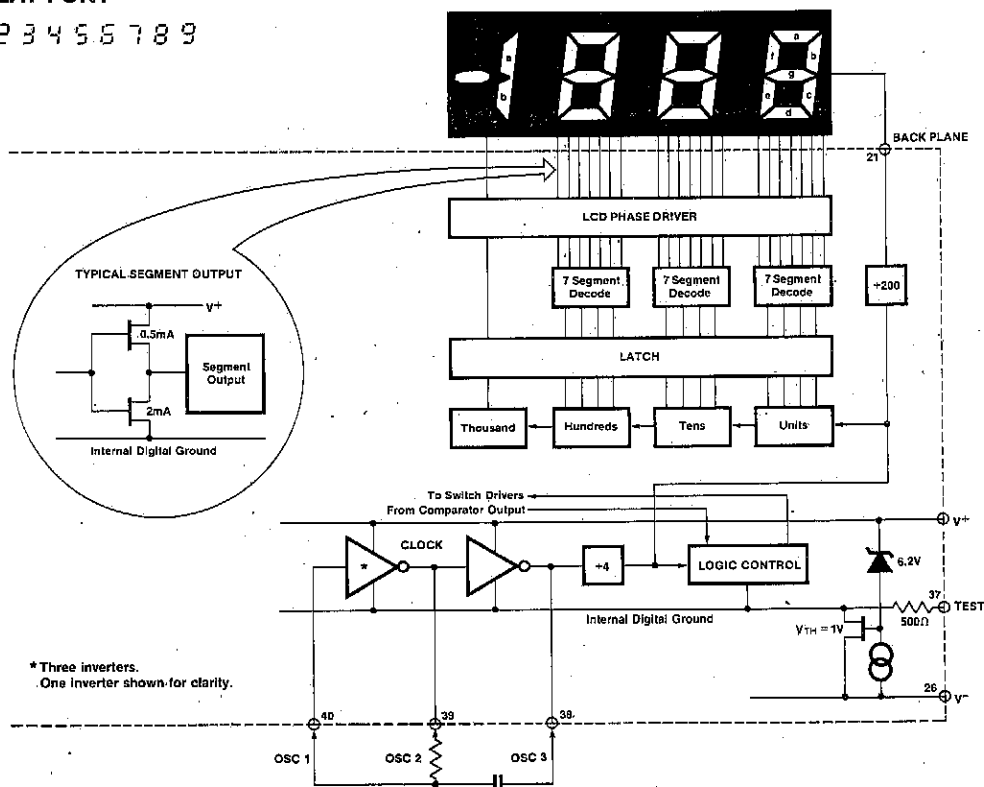

Figure 7: Digital Section
Figure 7 shows the digital section for the 7126. An internal digital ground is generated from a 6 Volt Zener diode and a large P channel source follower. This supply is made stiff to absorb the relative large capacitive currents when the back plane (BP) voltage is switched. The BP frequency is the clock frequency divided by 800. For three readings/second this is a 60 Hz square wave with a nominal amplitude of 5 Volts. The segments are driven at the same frequency and amplitude and are in phase with BP when OFF, but out of phase when ON. In all cases negligible DC voltage exists across the segments. The polarity indication is "ON" for negative analog inputs. If IN LO and IN HI are reversed, this indication can be reversed also, if desired.